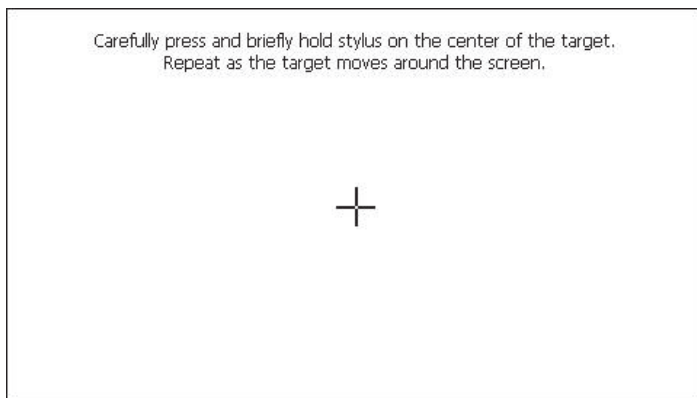

Fig. 113: Calibration Crosshair Screen
5. The calibration utility will start and crosshairs will appear on the screen (Fig. 113). At each crosshair position, touch the screen at the center of the crosshairs. Repeat this for each position in order to set the calibration. The calibration requires five points, the center and four corners.